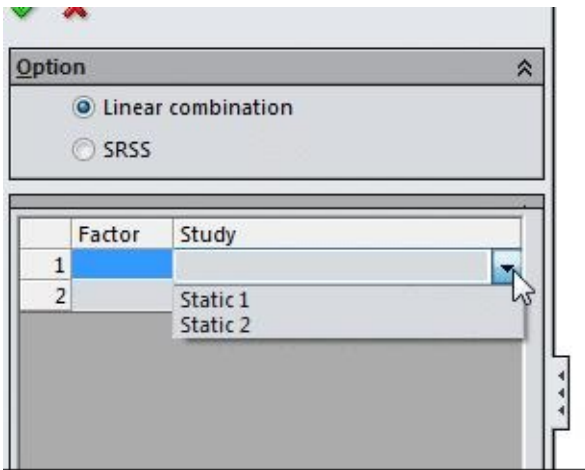

Figure-7. List of studies
- Click on the down arrow of drop-down. The list of static analyses studies will displayed; refer to Figure-7.